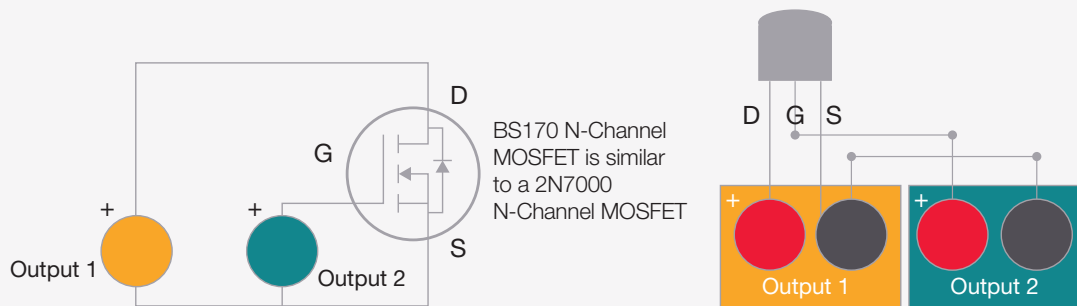

Figure 1. Connecting the transistor to the power supply
Accurately measuring the small drain currents requires short wires and minimal connections. Attaching short wires directly from the transistor to the power supply eliminates all unnecessary connections. Using sockets and breadboards can introduce significant errors. In Figure 1 most of the current flows from output 1 to the drain (D) and through the source (S) and back to output 1.